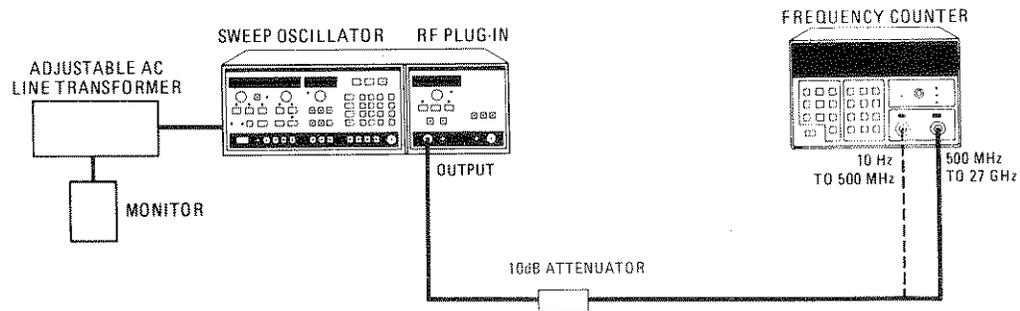

Figure 4-5. Frequency Change with Line Voltage Change
1. Connect equipment as shown in Figure 4-5 and set 8350A LINE switch to ON.